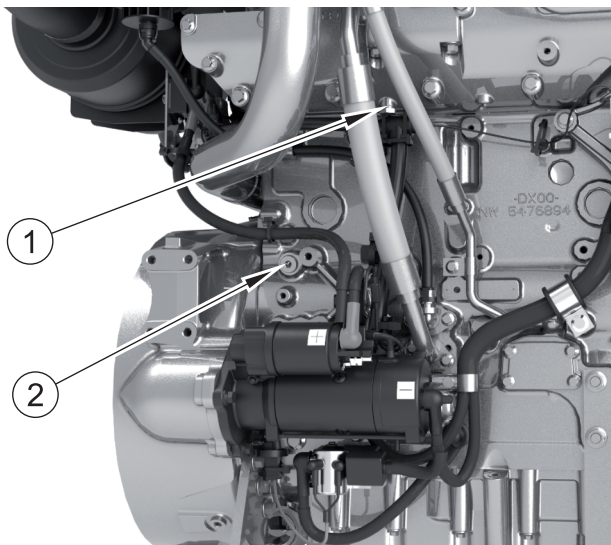

Figure 3
3. Remove the drain plug (figure 3 item 1) from the exhaust manifold and the sampling plug located on the left side of the cylinder block (figure 3 item 2).